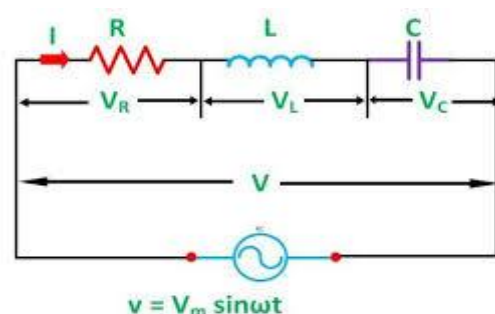

Figure 13: RLC Circuit diagram
An RLC circuit is an electrical circuit composed of a resistor (R), an inductor (L) and a capacitor (C), all are connected together in series or parallel; the name RLC simply comes from the symbols representing each component in a circuit diagram. These circuits are often called tuned circuit because they can resonate at a resonant frequency and exhibit resonant behavior, meaning they can oscillate strongly at a specific frequency, making them valuable in basic applications such as radio tuning, oscillators, signal filtering and other electronic devices where precise frequency selection is required see figure 13.